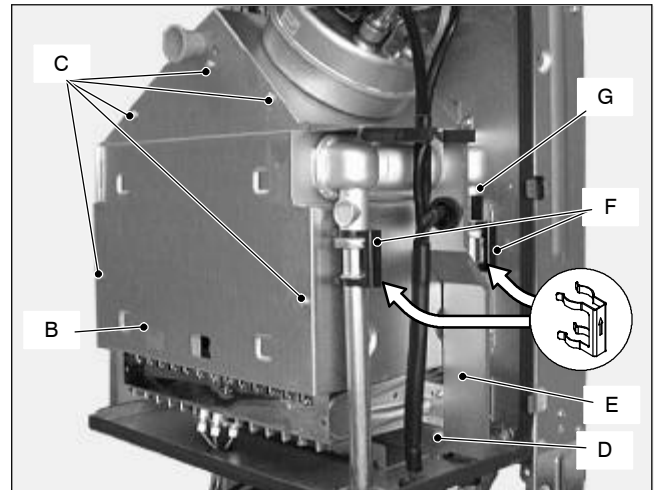

Fig. 11
- 3 Remove the combustion chamber lid *B* by unscrewing the screws *C* (Fig. 11).
- 9 Reassemble the boiler carrying out the removal operations in reverse order. **Fit the clips *F* with the arrow pointing upwards as illustrated in Fig. 11.**